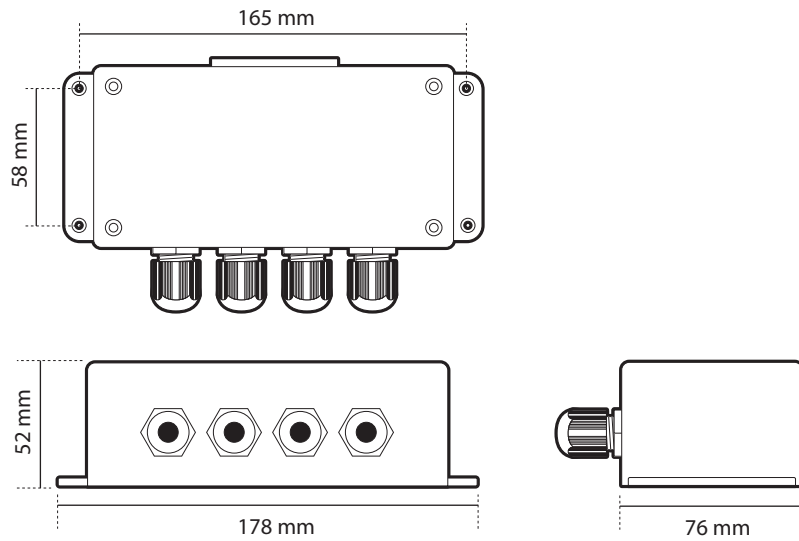

Figure 40 Junction box dimensions
- There should be adequate space around the junction box for routing of cables. See Figure 40 for details of the junction box dimensions.